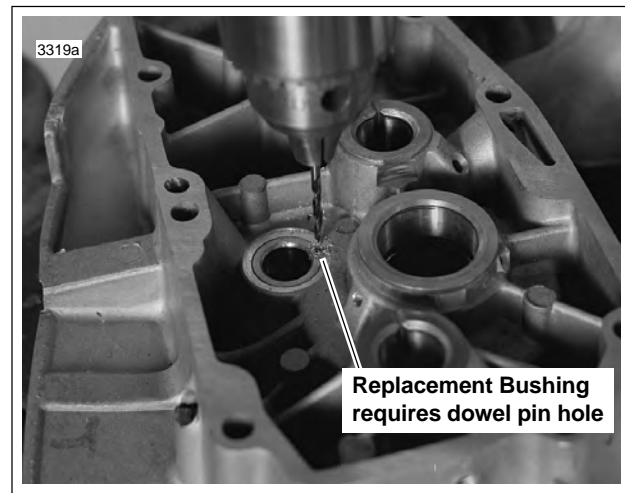

Figure 3-65. Drilling Dowel Pin Hole
2. Although the original pinion shaft bushing is not “pinned,” the replacement bushing must be secured, from possible rotation within the cover bore, by installation of a dowel pin. See Figure 3-65. Drill a No. 31 hole, 0.281 in. (7.137 mm) deep, at top side of boss (side toward top of gearcase cover), centering the drill bit on the cover bore circle (hole is drilled half in bushing OD and half in cover bore ID).